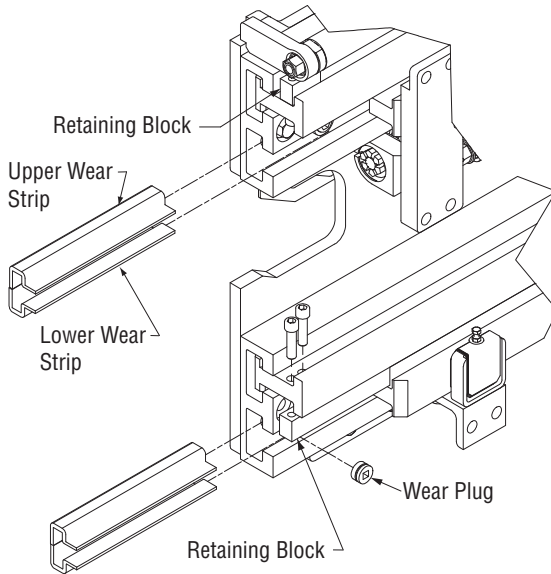

Figure 6-14, Two-Part Wear Strips
- Reinstall inner retaining blocks in their original positions. (Figure 6-14)